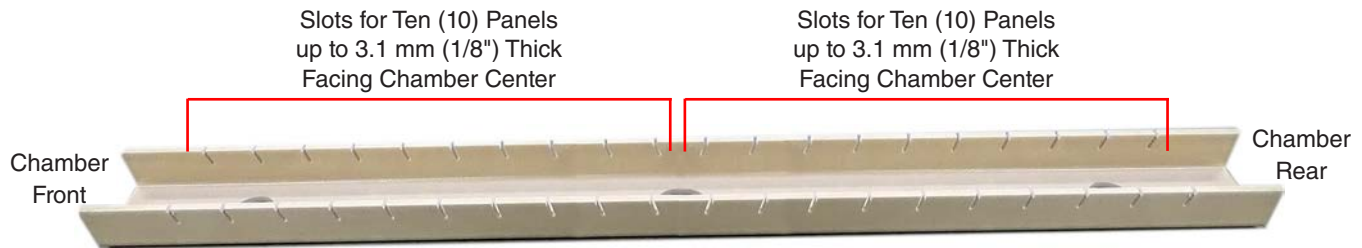

Figure 10.2.2a: Panel Rack for “T” model testers.
- Panel racks for “T” model 1100 L testers have mounting slots facing the center of the chamber, angled 15° from vertical (Figure 10.2.2a through Figure 10.2.2c). See Section 16 for these panel rack part numbers.